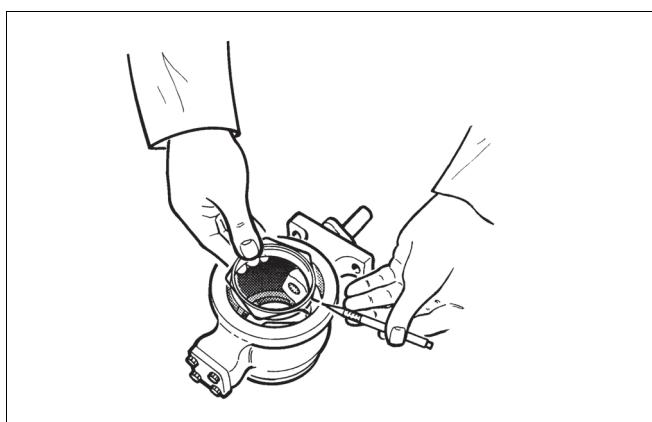

Fig. 17 Mounting the seat
- Turn the valve and lift the seat from the body through the downstream flow port, Fig. 17.
- Place the lock spring (5) on the seat.
- When the valve is opened, the ends of the spring must be by the V-shaped opening, see Fig. 17.